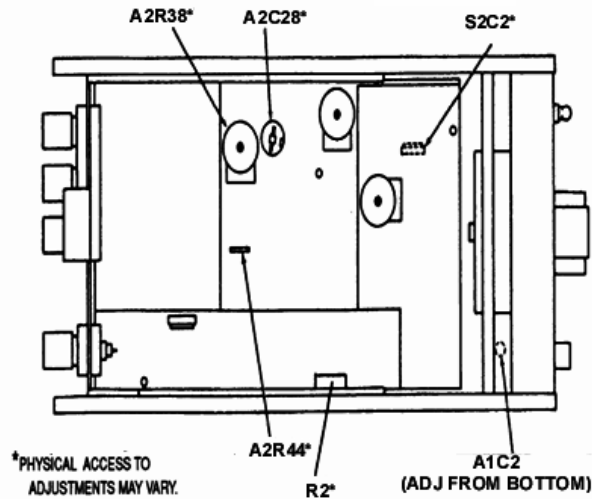

Figure 1. Test instrument (top view) - adjustment locations.
(1) Connect calibrator **OUTPUT** terminals to TI **INPUT** terminal and multimeter **INPUT** to TI rear panel **DC OUTPUT** terminals.
(2) Set **RANGE** switch to **.01 VOLTS** and set calibrator for a 10 mV, 1.0 kHz output. If multimeter does not indicate between 0.9950 and 1.0050 V dc, perform **b** below.
b. Adjustments. Adjust R2 (fig. 1) for a 1.0000 V indication on multimeter (R).